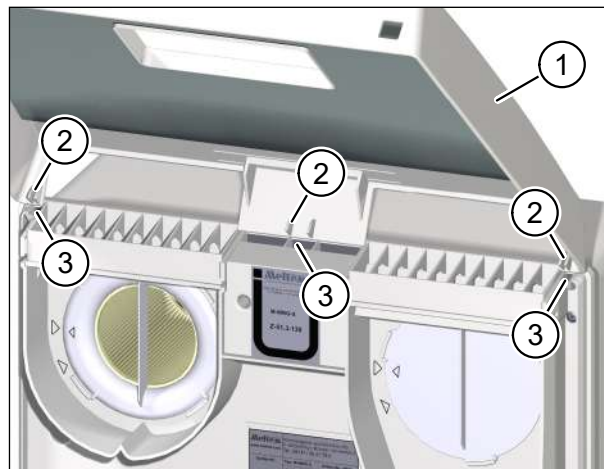

Fig. 20: Attaching the unit cover to the ventilation unit
- ▶ Hold the cover (item 1 in Fig. 20) of the ventilation unit with both hands and tilt the top edge of the cover towards the ventilation unit.
- ▶ Insert the tabs (item 2 in Fig. 20) of the unit cover into the openings (item 3 in Fig. 20) on the top of the ventilation unit.